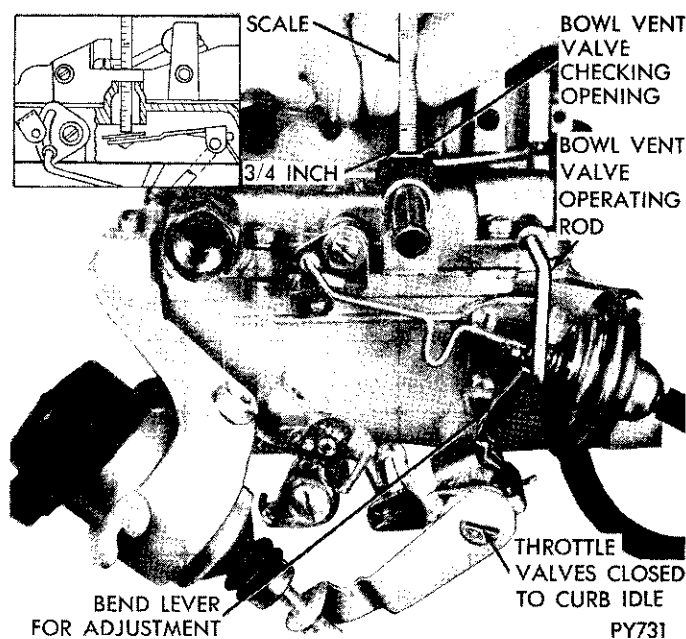

Fig. 18—Bowl Vent Valve Adjustment (C.A.S.) (E.C.S.)
(1) With throttle valves tightly closed, insert a 1/8 inch drill between air horn and valve at smallest opening (Fig. 18).
(2) If an adjustment is necessary, bend adjusting tang (on pivot end of lever) until correct opening has been obtained.
(1) Using Tool T109-43, remove bowl vent valve checking hole plug in air horn.
(2) With throttle valves at closed curb idle position, insert a narrow ruler down through hole. Allow ruler to rest lightly on top of valve. The reading should be 3/4 inch from top of valve to top of air horn casting at opening. (Fig. 18).
(3) If an adjustment is necessary, bend bowl vent